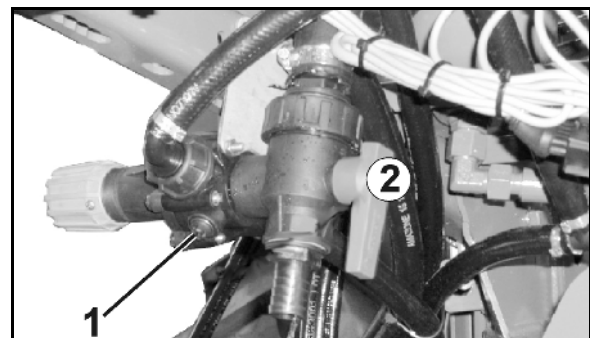

Fig. 125
- o Remove the drain plug (Fig. 125/1) from the pressure relief valve.
- o Open the DUS switchover tap (Fig. 125/2).